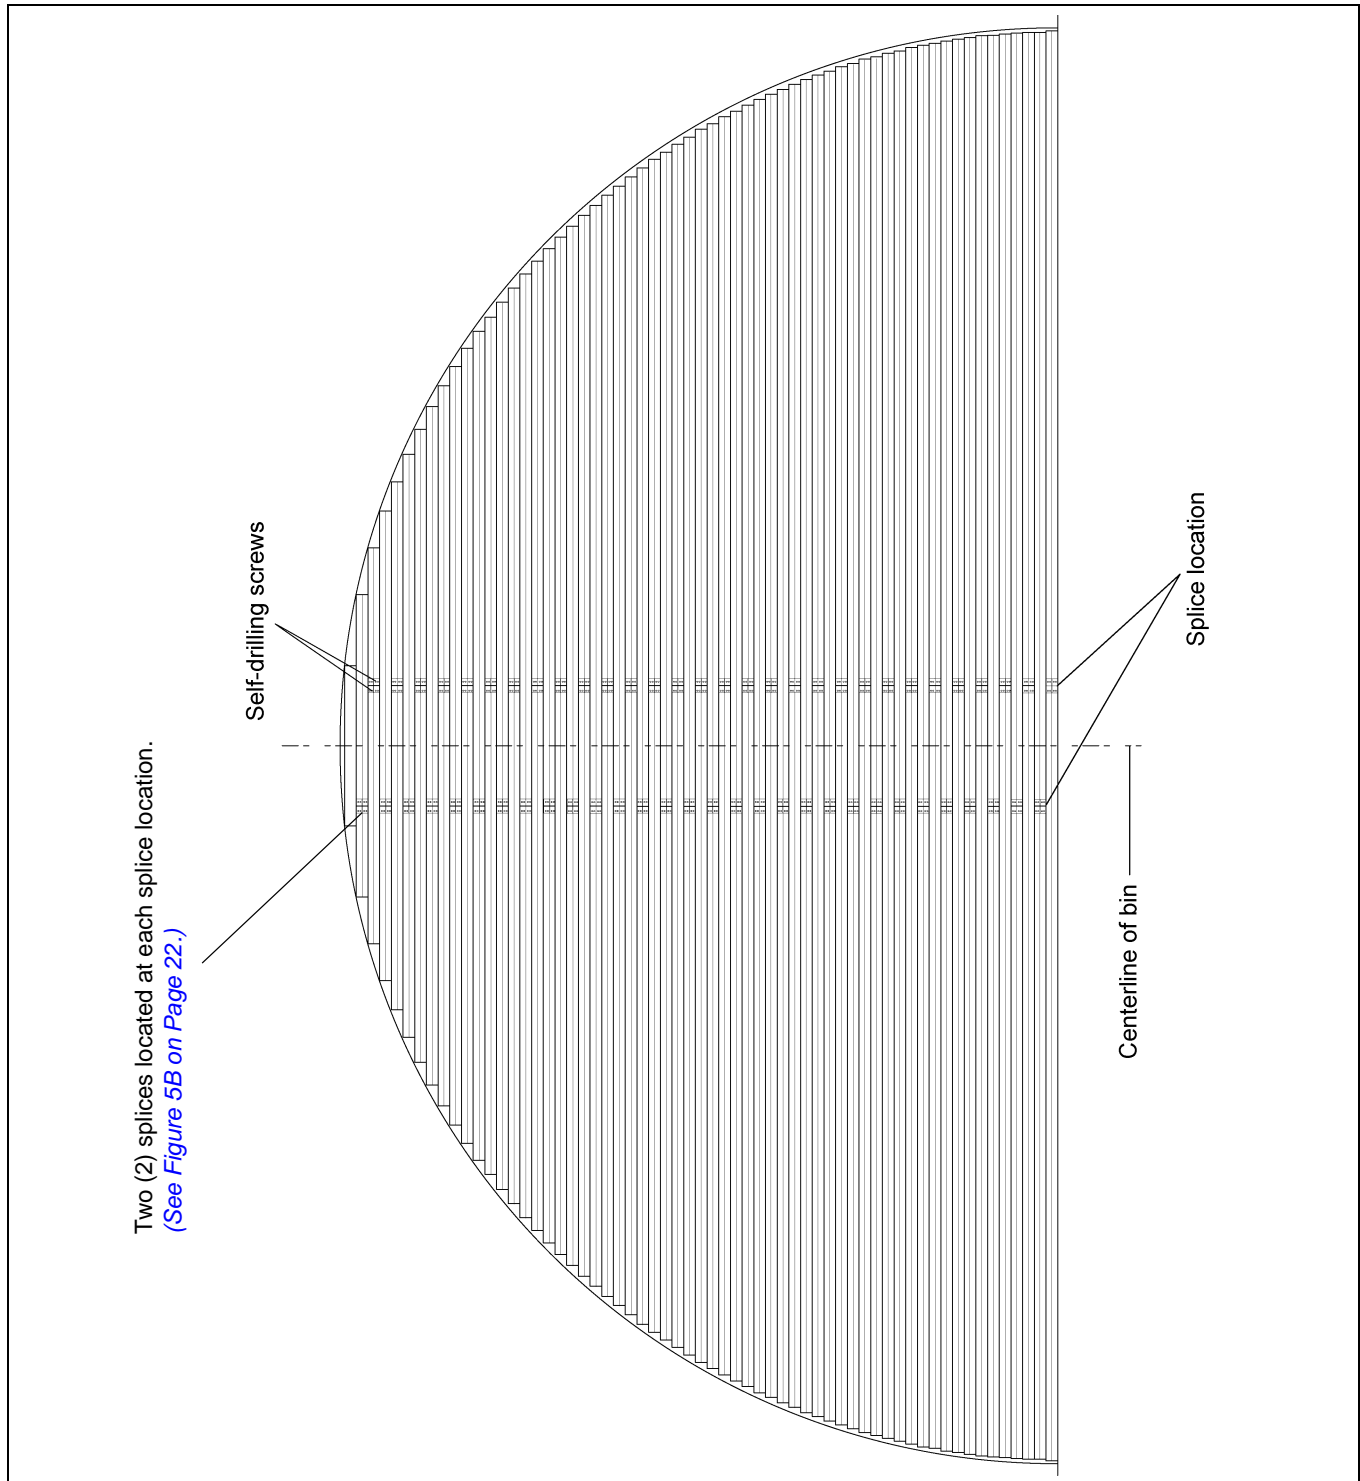
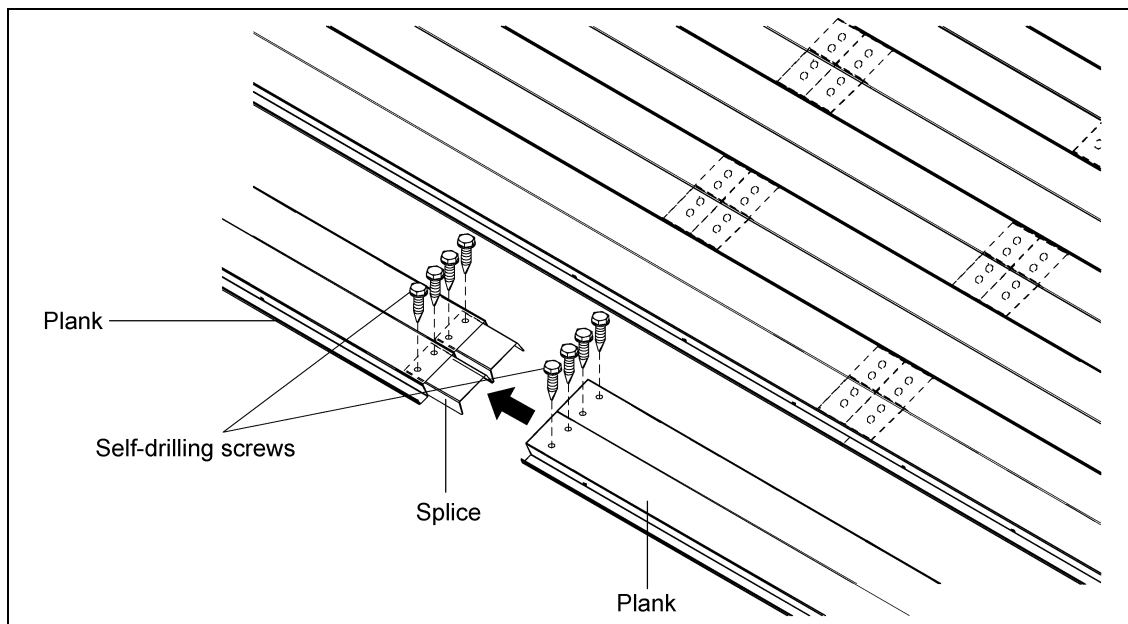
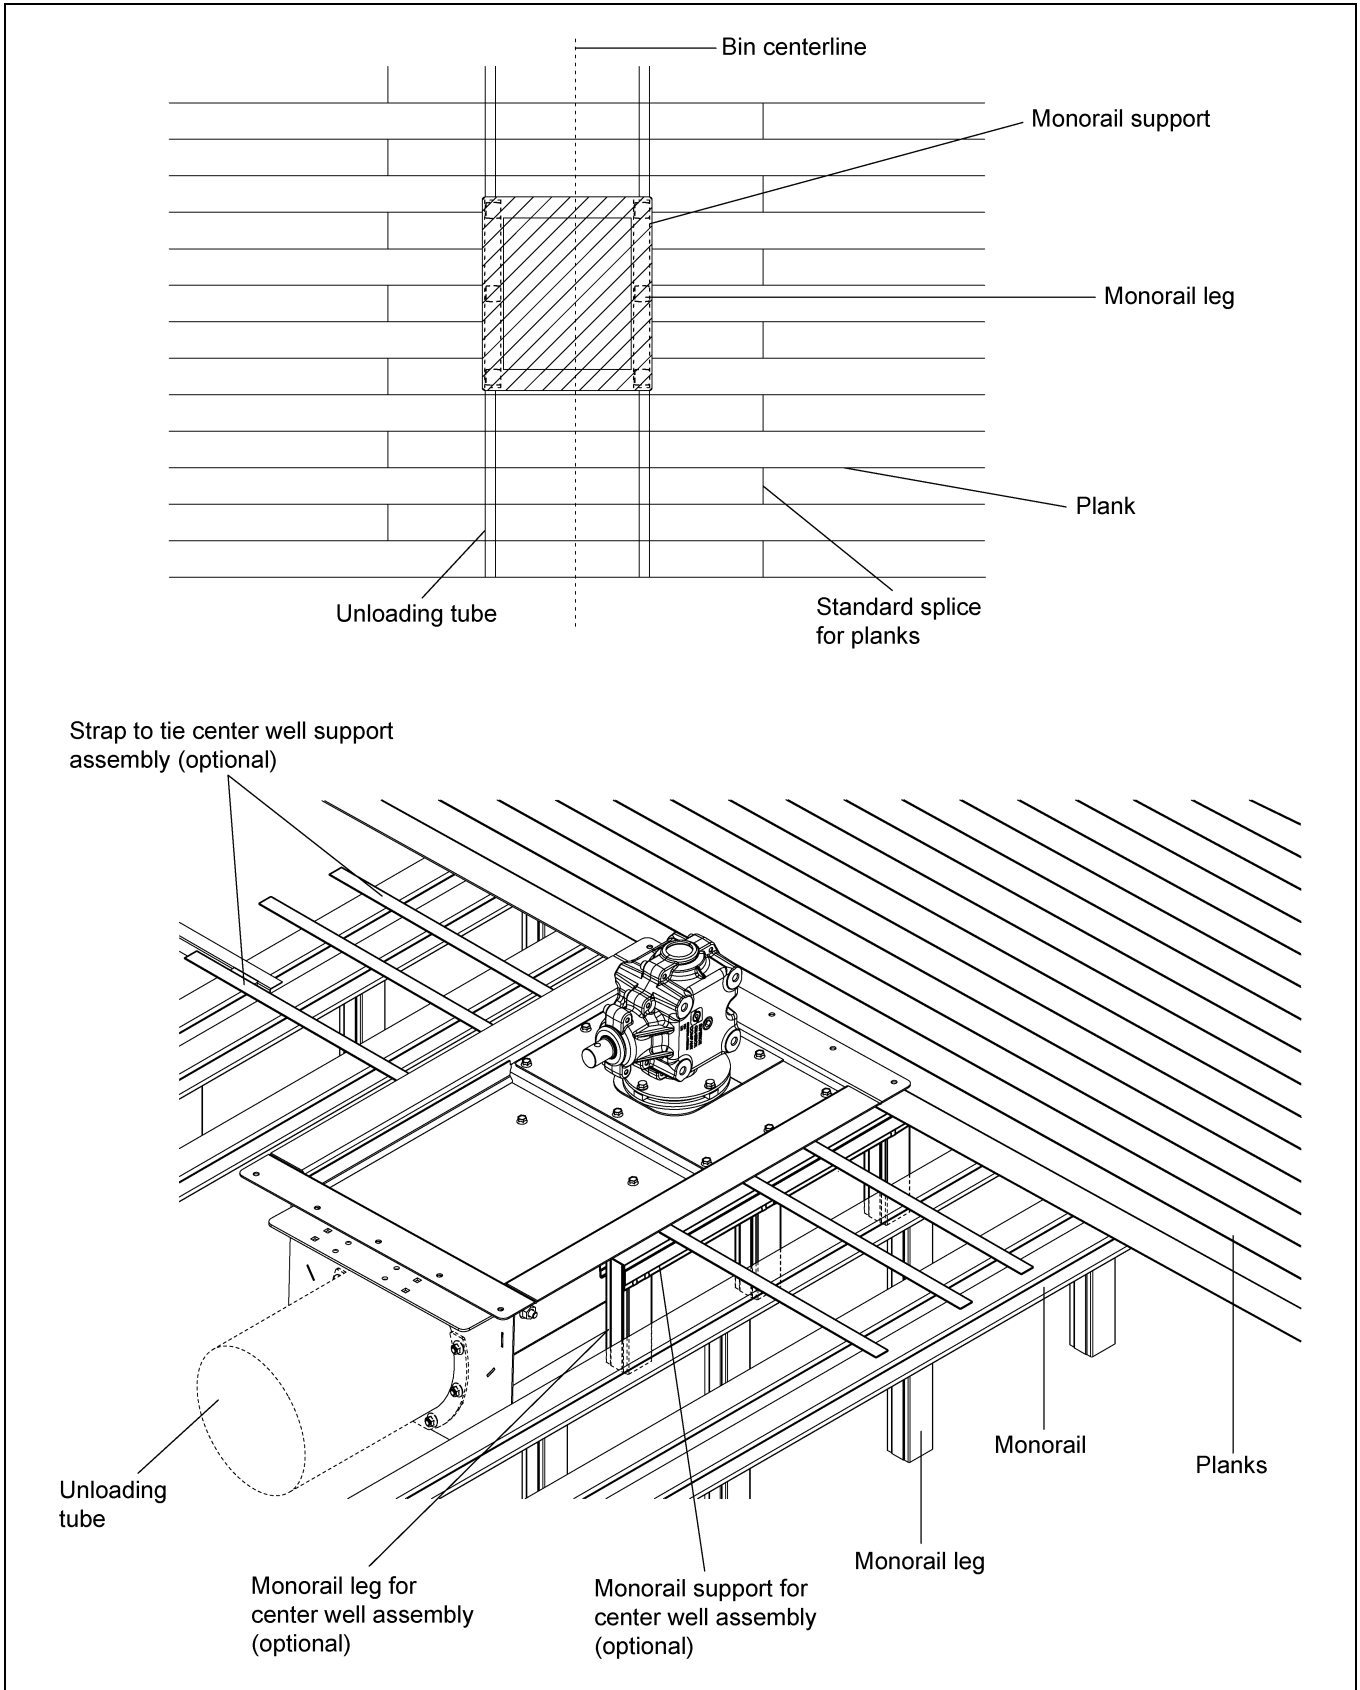
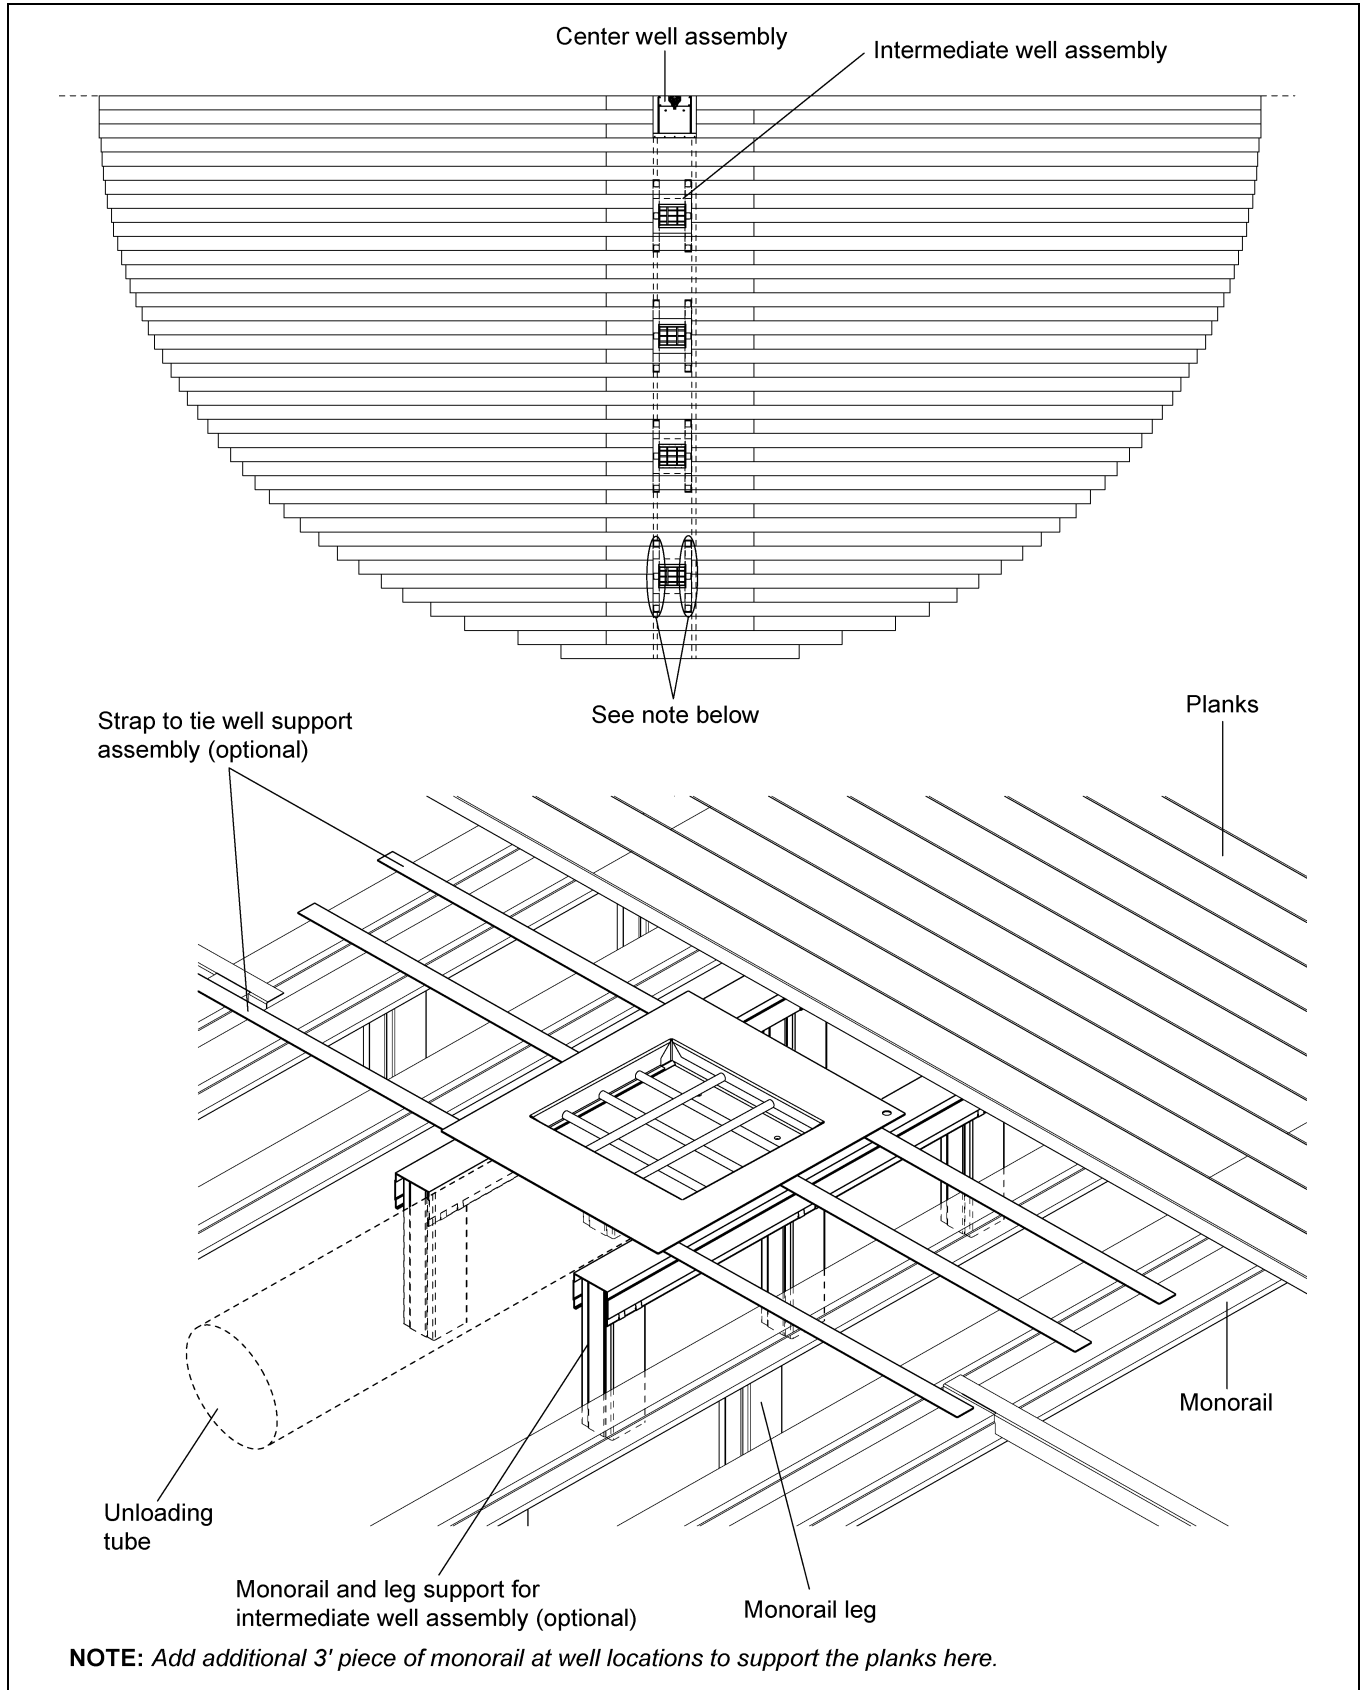

Figure 5A Floor Splice Layout
Figure 5B Splice Assembly View
Figure 5F 60' Diameter Bin Center Well Position for Recessed Full Floor
Figure 5G 60' Diameter Bin Intermediate Well Position for Recessed Full Floor
NOTE: Some tie straps will be used to support center well and intermediate well assembly. (See Figure 5F on Page 24 and Figure 5G on Page 25.)
Some of the floor planks will need to be spliced together. (See Figure 5F on Page 24 and plank layout on Page 32 and plank length chart on Page 33.) Install plank length A first, then install the corresponding plank length B. Continue until floor is complete. Center and install two (2) splices (PCL-7009) at each plank splice location using self-drilling screws. Use eight (8) screws at the end of the splice for each plank, four (4) on each side. (See Figure 5A below and Figure 5B on Page 22.)